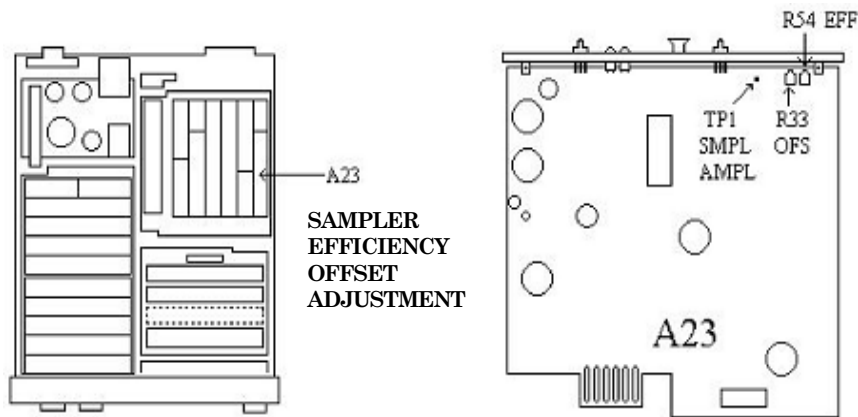

Figure 7. A23 board.
(1) Disconnect equipment setup.
(2) Connect TI sensor module to signal generator No. 1 **RF OUTPUT**.
(3) Connect oscilloscope **Vertical 1** input to A23TP1 SMPL AMPL (fig 7).
(4) Set signal generator No. 1 for an output of 18 MHz at a level of 0 dBm.
(5) Set oscilloscope for the following:
(7) Fine tune signal generator No. 1 up slowly until a zero beat appears on oscilloscope. Then increase signal generator No. 1 frequency by 1 kHz. Record the oscilloscope peak to peak amplitude as PK#1.
(8) Increase signal generator No. 1 frequency by 30 kHz.
(9) Adjust A23R33 OFS (fig. 7) such that when the oscilloscope input coupling is changed from ac to dc the waveform shifts upward 50 mV. Adjust only when the input coupling is set to dc. (R)
(10) Adjust A23R54 EFF (fig. 7) for an oscilloscope indication of PK No.1 value recorded in (7) above.